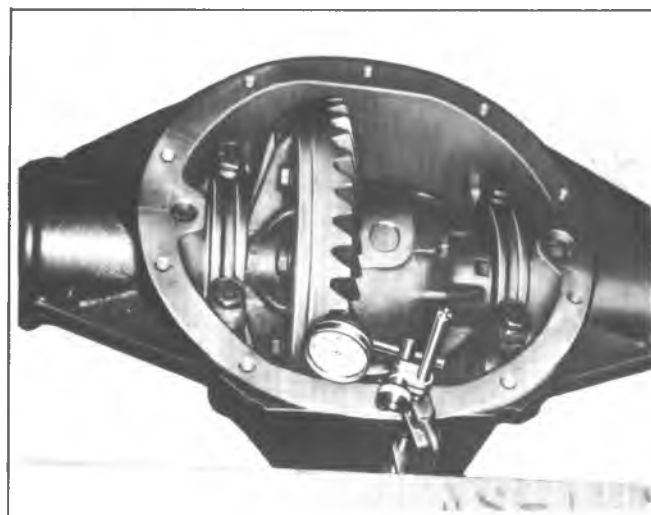

Fig. 10B--Checking Ring Gear Backlash
13. Mount a dial indicator on the carrier and check the backlash between the ring gear and pinion, as shown in figure 10B. The backlash should be within the range of 0.005"-0.008". Check gear lash at four different equally